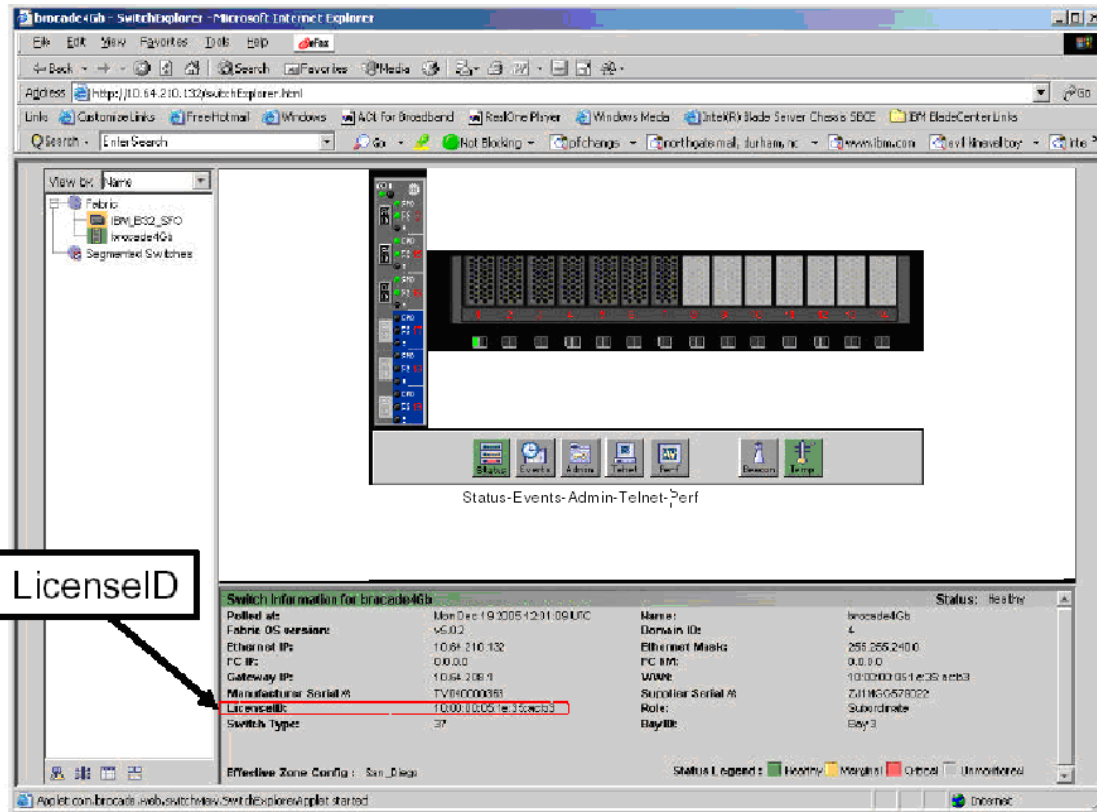

Figure 5-13 Locating License ID
2. Using Brocade Advanced Web Tools, look underneath the illustration of the switch to find the LicenseID of the switch module (see Figure 5-13 on page 67).